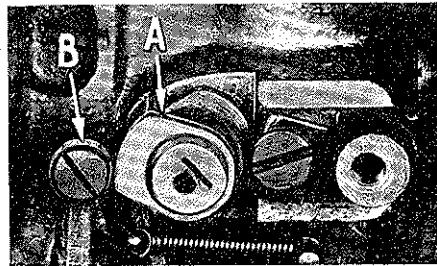

Fig. 16
To accomplish this setting turn handwheel in operating direction until needle is on the down stroke on the left side and the point of needle is approximately $1/32$ inch from the center of lining plunger. Now, loosen screws in lining plunger cam (A, (Fig. 16) and rotate cam in counterclockwise direction until follower roller (B) is just leaving high lobe. (Examine contact surface of cam and note high lobe; it appears as a raised flat about $1/16$ inch long). Retighten screws in the cam.